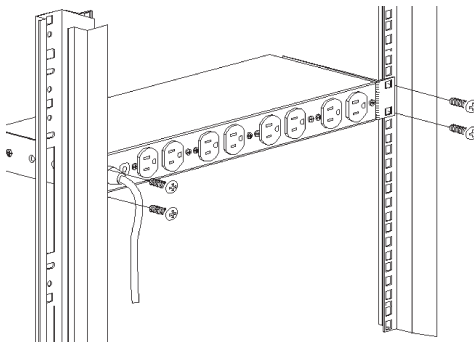

Figure 4: Mounting in a NetShelter™ Cabinet
3. Refer to Figure 4 and use 4 cage nuts and machine screws (not supplied with the MasterSwitch™) to mount the MasterSwitch™ into the NetShelter™ cabinet. If the MasterSwitch™ is being installed in a cabinet other than a NetShelter™, use the hardware that is appropriate for the cabinet.